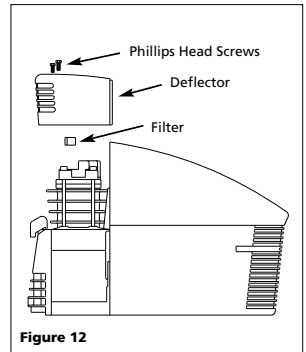

Figure 12
- Drain tank daily: Open drain cocks and tilt unit to drain moisture from tanks (See Figure 12). Be sure to close drain cocks tightly before operating compressor. This helps prevent tank corrosion and keeps oil and moisture out of compressed air.